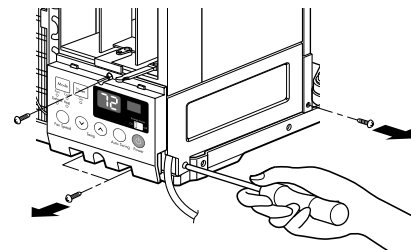

Figure 3
2. Pull the base pan forward so that you can remove the 2 screws which fasten the cover control at the right side. (See Fig. 3)
3. Remove the 3 screws which fasten the control box. (See Fig. 3)
7. Re-install the components by referring to the removal procedure. (See Fig. 3)